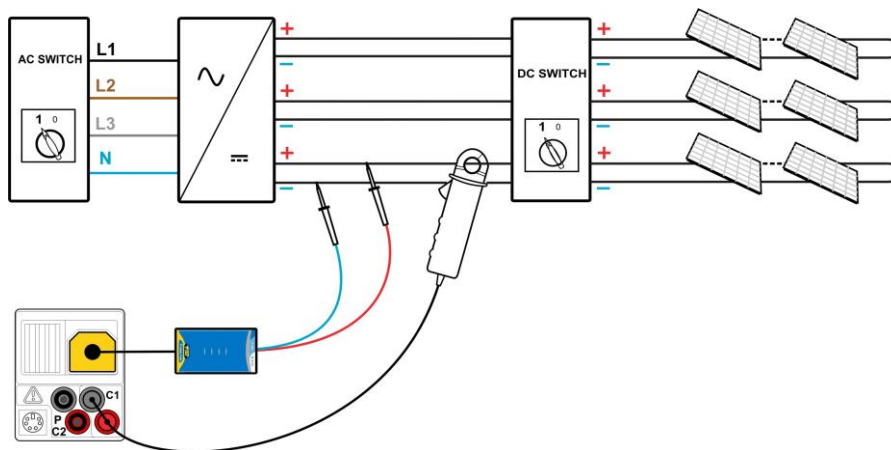

Figure 6.6: PV inverter test - DC side
- ❑ **Connect** PV safety probe and current clamp to the instrument (see figures 6.6 and 6.7) or
- ❑ **Connect** accessories to the PV system (see figures 6.6 to 6.8).